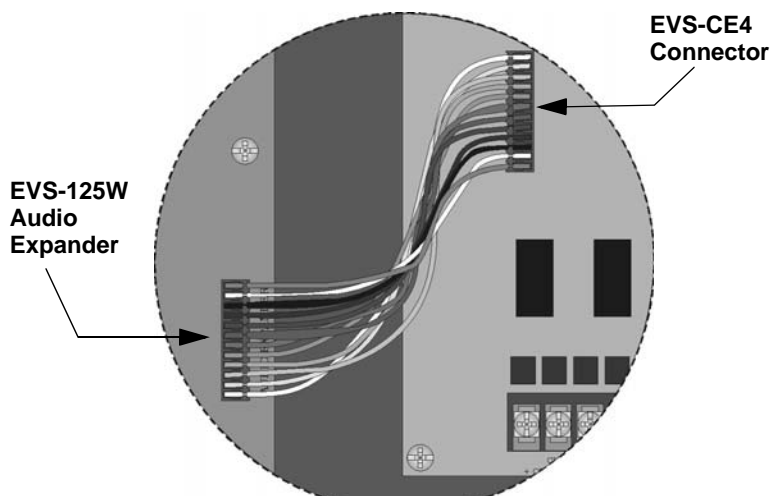

Figure 4-48 Audio Expander Wire Harness Connections
2. Connect the audio expander cable harness (P/N 130426) from the connector labeled "Audio Expander" on the EVS-50W/EVS-125W to the connector on the EVS-CE4 as shown in Figure 4-48.